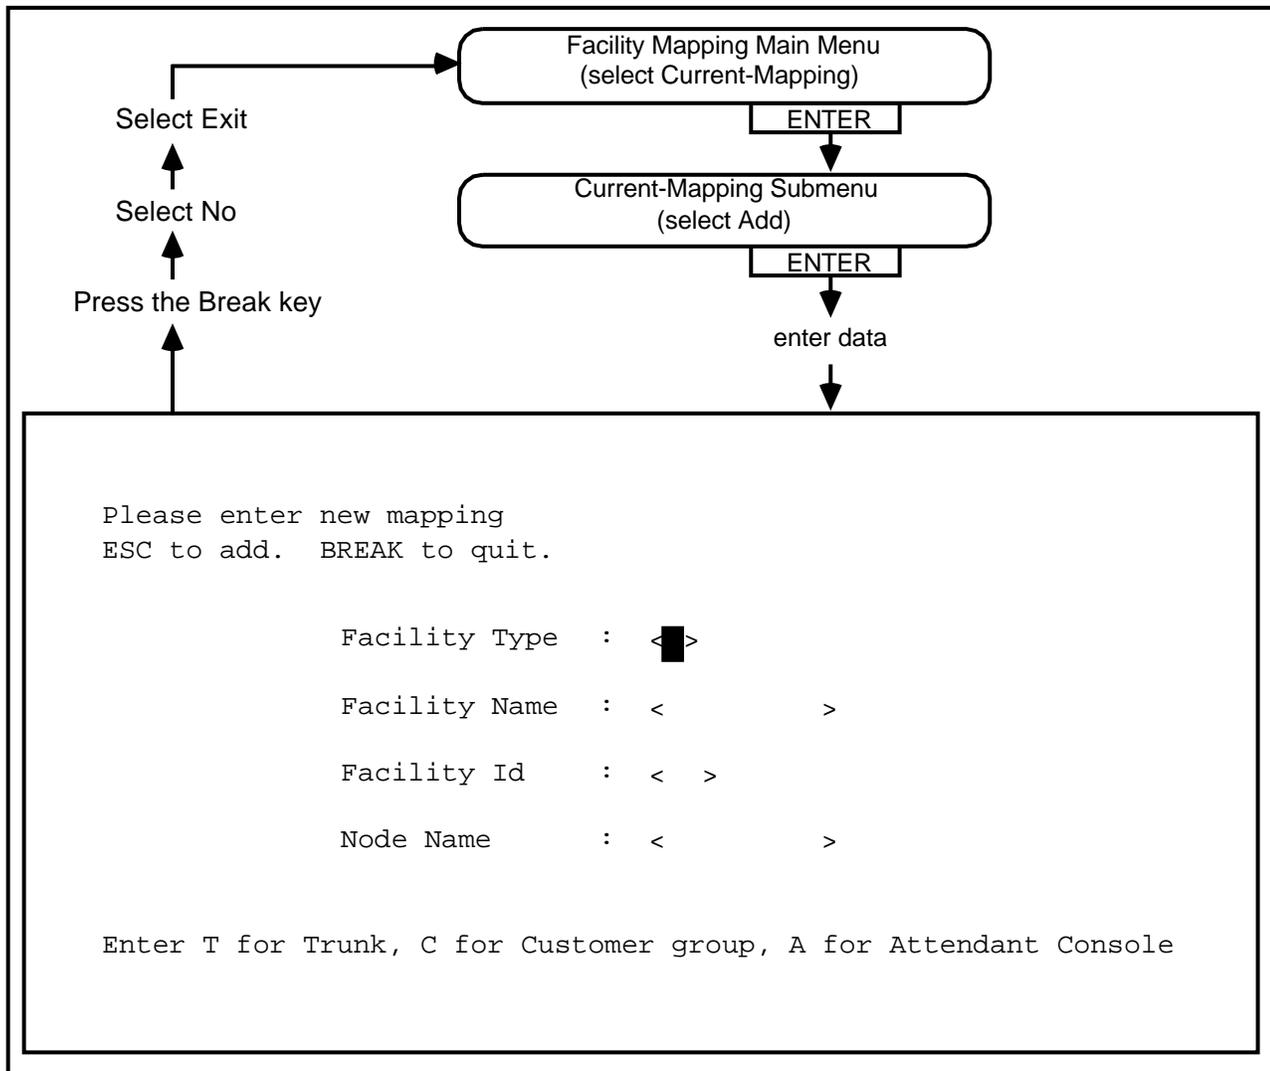

Fig. 7-5
7.13 Field Information. Using the New Mapping screen, the user can create a facility mapping. The following list describes the information required as data for the fields of the new mapping screen (see Fig. 7-5).